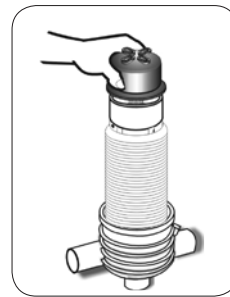

Figure 3
- Remove the tightening cylinder (Figure 3).